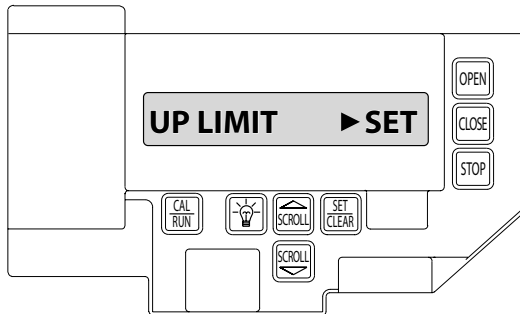

FIG. 5
4. Press SET/CLEAR key to switch display to UP LIMIT>SET . FIG. 5.
2. Press SCROLL until display reads UP LIMIT>SET or DOWN LIMIT>SET. FIG. 5.